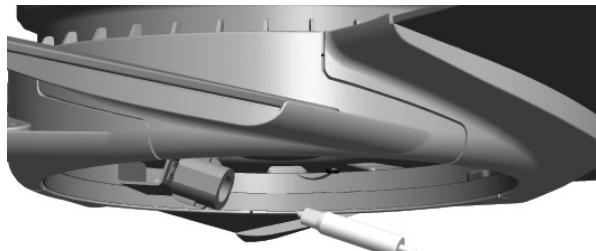

FIGURE 1.
Step 1. Attach the 5 blade tips to the blades using two 6-32x1/8" round head screws provided. Note: the screws have locktight on them, so once they are installed it will be difficult to remove the screws Figure 1.
BLADE TIP INSTALLATION: FIGURE 1
Step 1. Screw the 100-watt Halogen bulb into the socket. Figure 1. Do not touch the glass bulb with your fingers—it is extremely important that the glass be clean. If it is touched, or dirty, clean carefully with a tissue. A dirty glass bulb will cause the bulb to fail almost immediately.